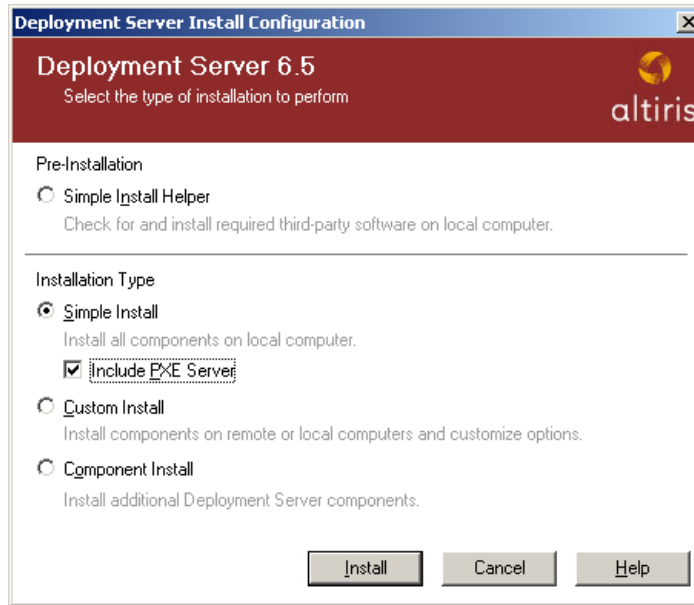

Figure 2-3 Deployment Server Install Configuration window with Simple Install with PXE Server
3. When the Deployment Server Install Configuration window loads (as shown in Figure 2-3 on page 15), select **Simple Install Helper** and then click **Install** to verify that all third-party software has been installed.
2. On the Deployment Server Install Configuration window shown in Figure 2-3 on page 15, select **Custom Install**. Click **Install** to begin the installation.
2. On the Deployment Server Install Configuration window shown in Figure 2-3 on page 15, select **Component Install**. Click **Install** to begin the installation.